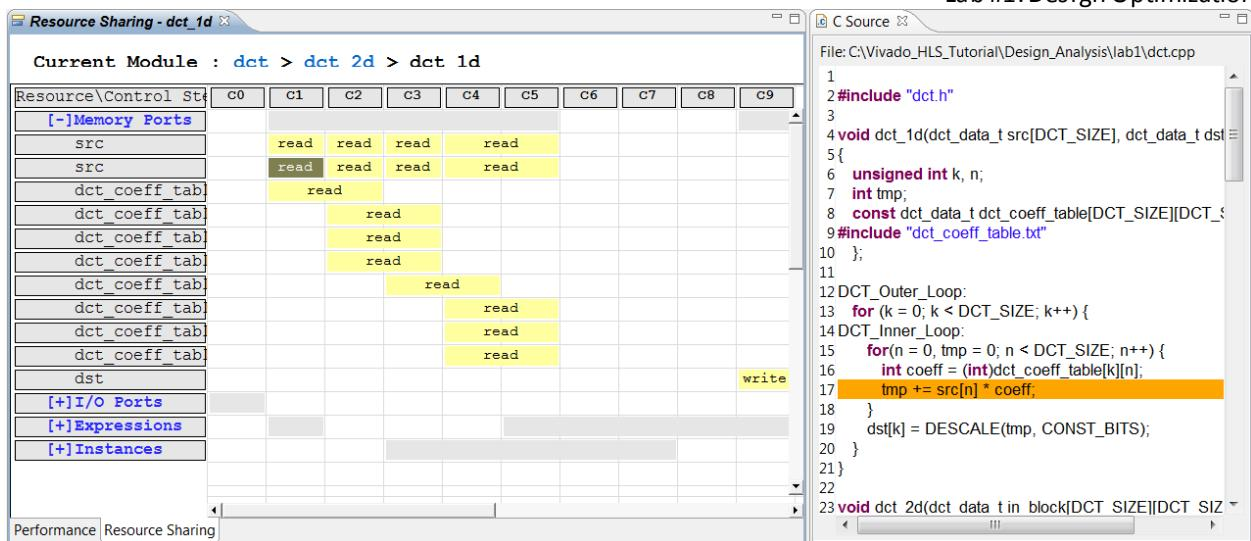

Figure 131 Memory resource src and Source Code
17. Right-click with the mouse and select Goto Source to see the view shown in Figure 131.
Figure 131 shows this read on the src variable is from the read operation inside loop DCT_Inner_Loop. This loop was automatically unrolled when DCT_Outer_Loop was pipelined and all operations in this loop can occur in parallel (if data dependencies allow).
The 8 reads are being forced to occur over multiple cycles because the array src is implemented as a BRAM in the RTL and a BRAM can only allow 2 reads (maximum) in any one clock cycle. In Figure 131, the read operations take 2 clocks cycle: a cycle to generate the address for the BRAM and a cycle to read the data. Only the launch (address generation cycle) is shown because it overlaps with the operation in the next clock cycle.